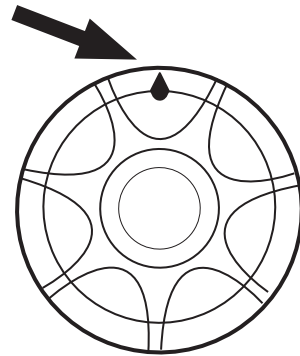

Figure 8. Wheel Speed Indicator
4. Locate the wheel speed indicator on the rear right wheel (Figure 8).